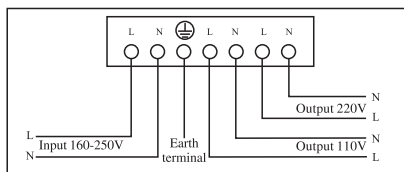

Fig.8: Wiring diagram of single-phase products of SVM2000VA~3000VA
- Before operating, please make sure that the voltage of power network is within the input voltage range permitted by this equipment, then carry out wiring according to the symbols on the front and back panels carefully and do not make mistake, make sure firm grounding. (Input wiring of single-phase voltage stabilizers up to and including 1500VA is the power line, and output is the socket; please refer to Fig. 8 ~ Fig.10 for wiring of other voltage stabilizers).